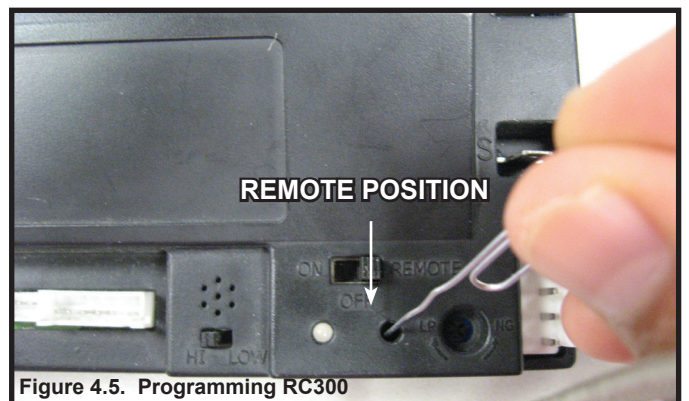

Figure 4.5. Programming RC300
- Verify the ON/OFF/REMOTE switch is in the REMOTE position. Green LED light will blink three times and wall switch will beep once 5 seconds later when ready. See Figure 4.5.
- Using a small item (such as a paper clip) press and release the LEARN button located near the ON/OFF/REMOTE switch. See Figure 4.5.